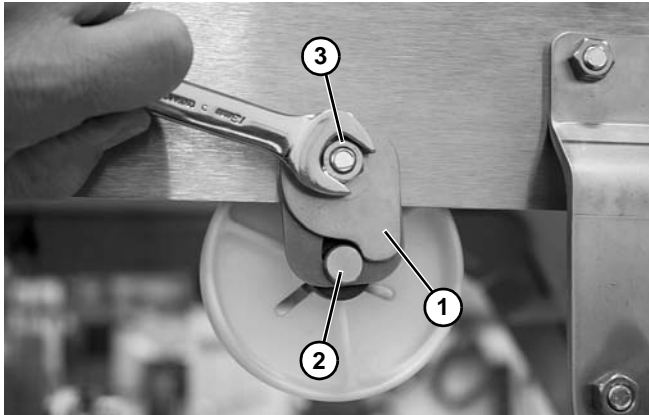

Figure 33
6. Rotate return clip (**Figure 33, item 1**) down against shaft (**Figure 33, item 2**) on both sides of conveyor. Tighten nuts (**Figure 33, item 3**).